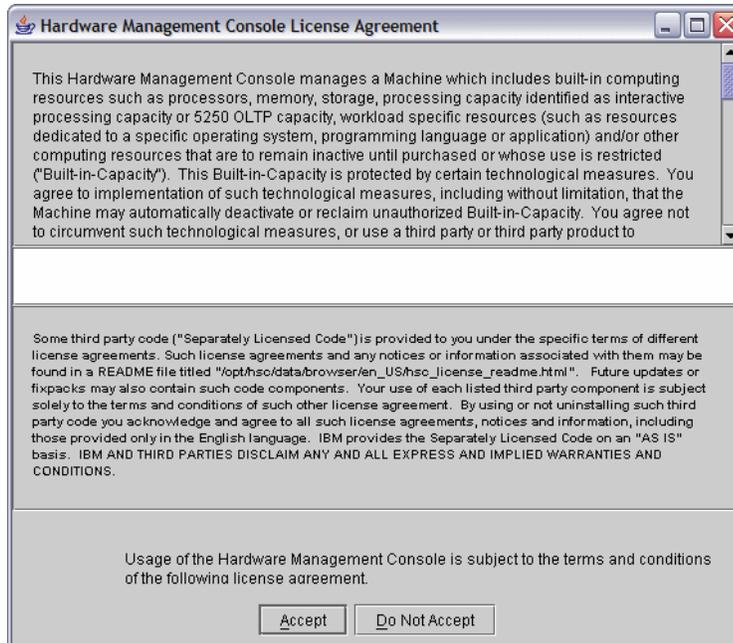

Figure 14-43 HMC License Agreement screen - upgrade release
7. The Hardware Management Console License Agreement panel is then shown (Figure 14-43).